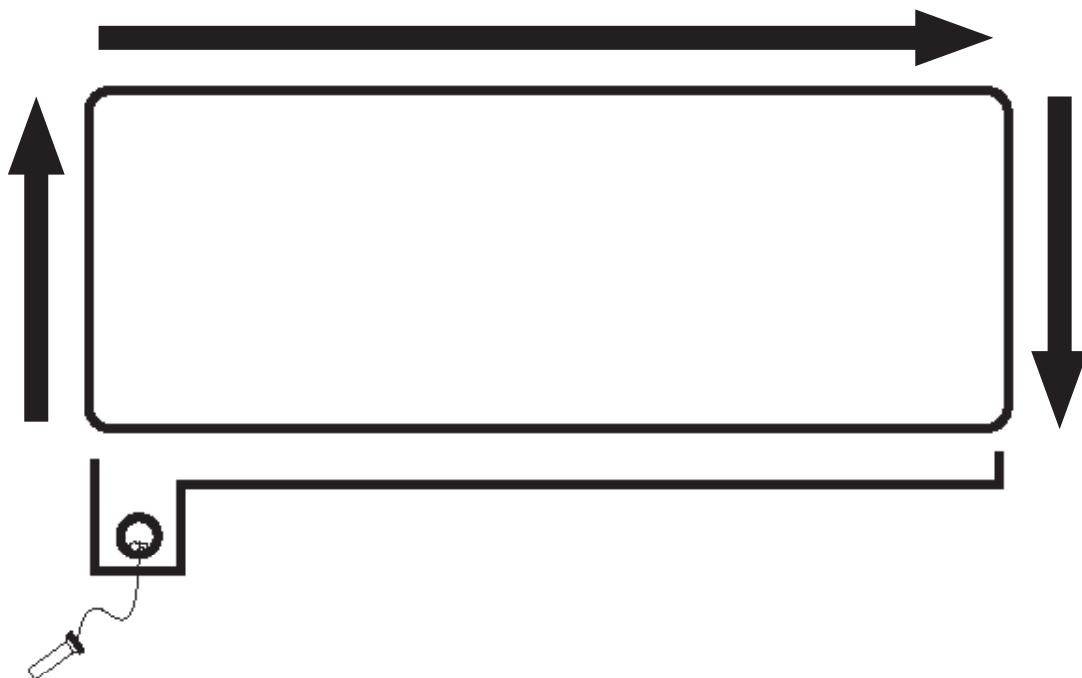

FIGURE 899N
Refer to **Figure 899N (i)**.
- 9.43.8 Seal the two sheets together along the 150 mm section (the length of the tool) and then slide the tool along the length of the sheet and clamp again to seal the next section. Refer to **Figure 899N (ii)**.